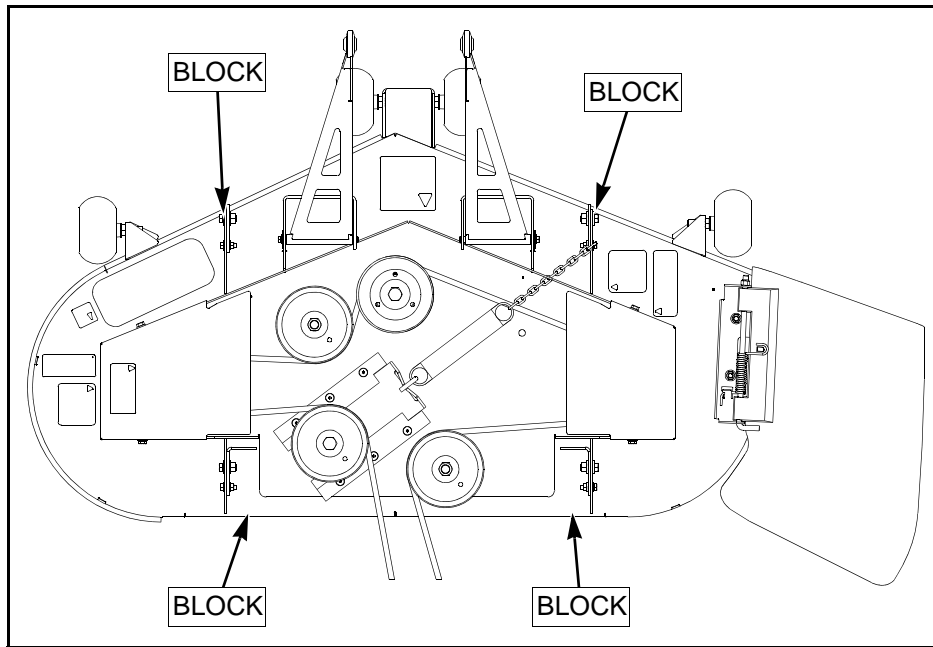

FIG. 2
2. Place 3" high deck support blocks (two stacked 2"x4" blocks can be used to create a 3" high support) at the four corners of the deck as indicated in FIG. 2.
10. Push or pull on the deck lift pedal until the chain on the LEFT FRONT just becomes tight, making sure that the deck stays tight against the deck installation blocks (FIG. 2)